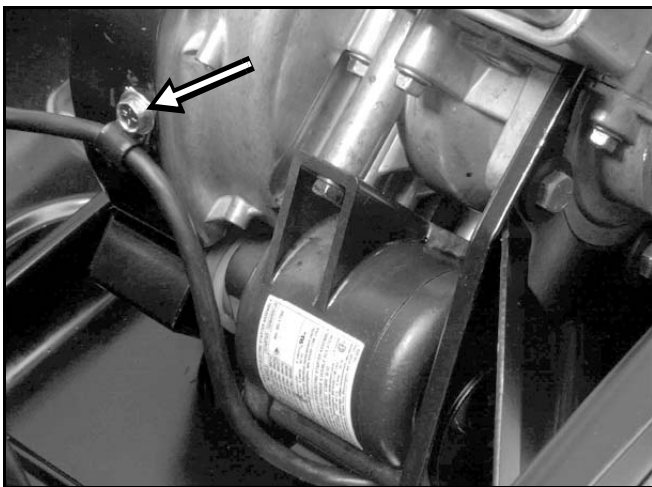

Figure 34
4. Remove the self-tapping screws that secure the blower housing to the engine (Figure 34).